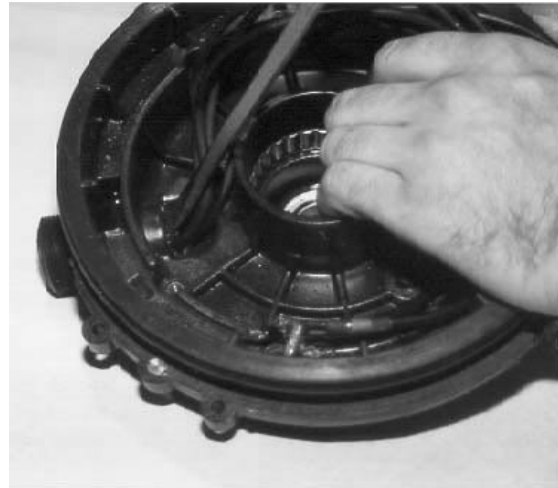

Figure X-10 LM bulkhead removal.
1. Remove old bulkhead insert (P/N:C2-500) by pushing the inner lip of the insert through the bulkhead opening or by cutting away part of the lip.(Fig. X-10)